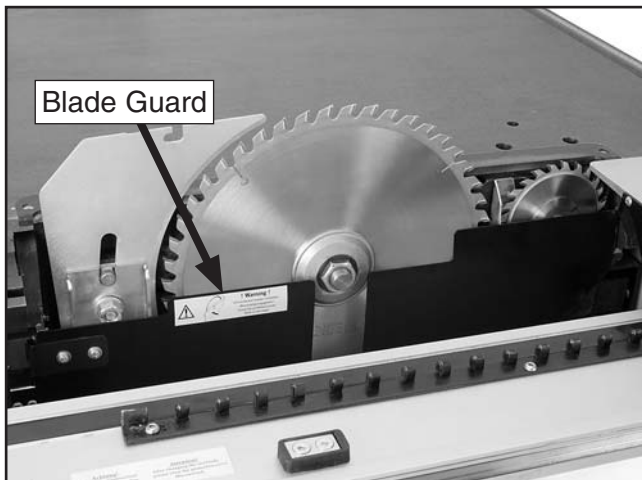

Figure 50. Internal blade guard exposed.
3. Move the sliding table all the way backward to expose the internal blade guard that covers the blades and riving knife, as shown in **Figure 50**.